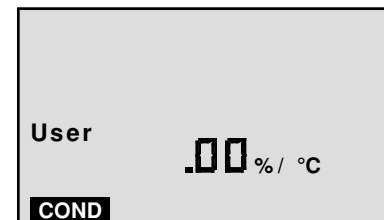

Figure 3
- b. With "USER" selected, press . If the display does not show .00%/°C, hold  long enough to bring the tempco to .00%/°C (see Fig. 3).